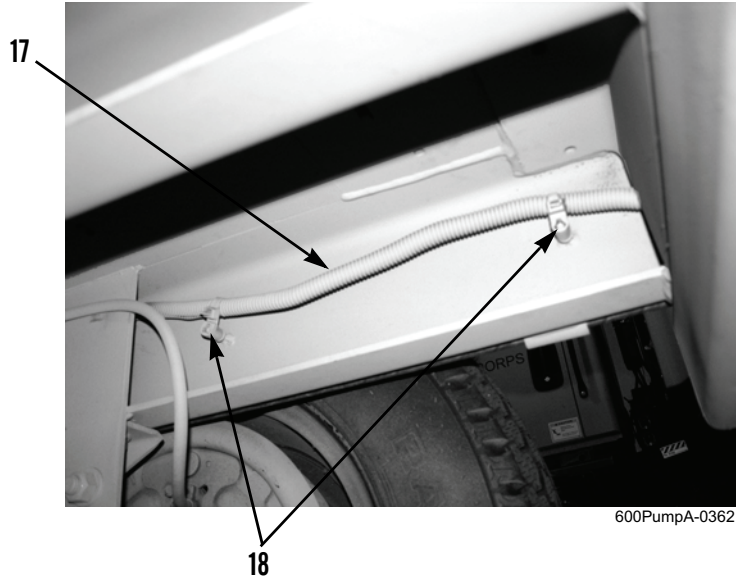

Figure 4. Wiring Harness Clamps.
9. Remove five clamps (Figure 4, Item 18) and release trailer wiring harness (Figure 4, Item 17) from trailer. Discard clamps.